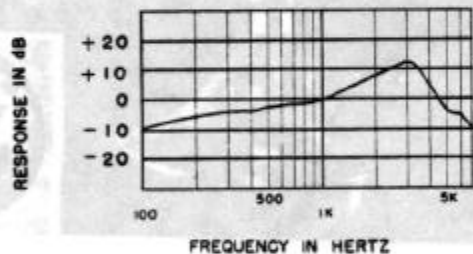

Fig. 4
- FREQUENCY RESPONSE: See Fig. 4. on other side.